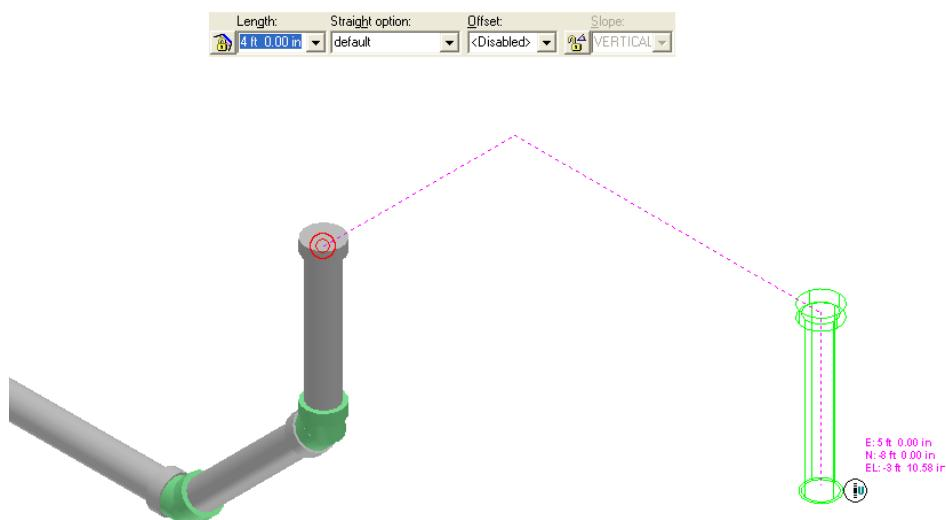

Figure 4. 40: Routing the Pipe in the El Direction
73. Select the **Lock slope** option on the **Route Pipe** ribbon to unlock the slope constraint and position the cursor downwards from the starting point. A SmartSketch indicator will display a U glyph. This glyph indicates that you are going down the Z-axis, as shown in Figure 4. 40.